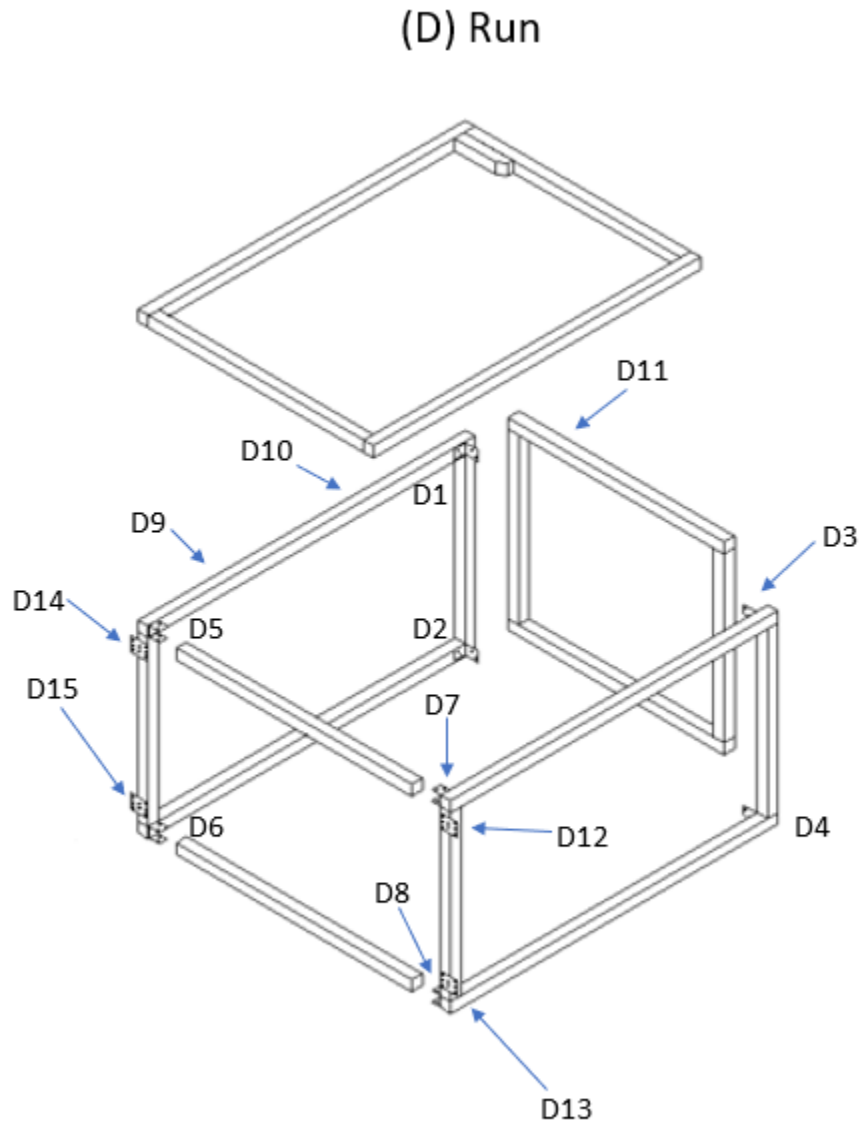

Figure 1.9
(See figure 1.9 below)
Step 11.) Locate the wire run panels and hinged wire top. Begin by attaching the longer wire side panels to the shorter wire end panel using the metal “L” brackets and the ½” pan head screws provided. As shown in figure 1.9
Step 14.) Attach the run lid hinge stay to point (D11) on the run end panel using a 1" panhead screw. Refer to figures 1.9 and 2.0 for placement.